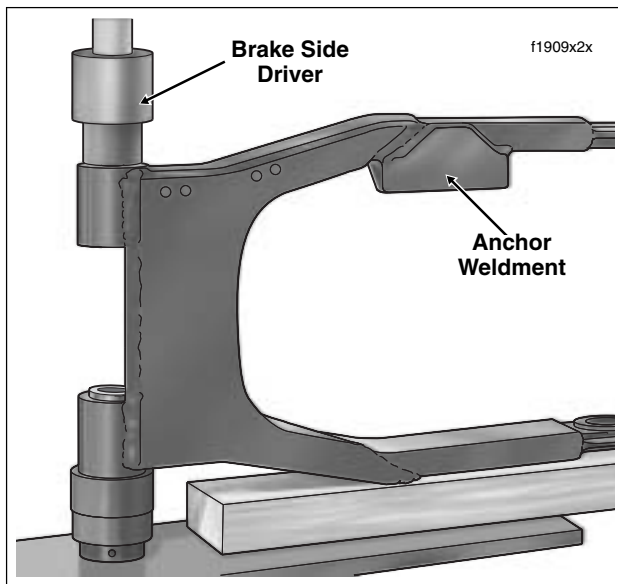

Figure 2-101. Press In Brake Side Bearing
- c. Insert driver stamped "Brake Side" into swingarm tube until it contacts installed bearing. Center driver under ram and press on brake side bearing until shoulder on tool makes contact with casting of swingarm. See Figure 2-101.